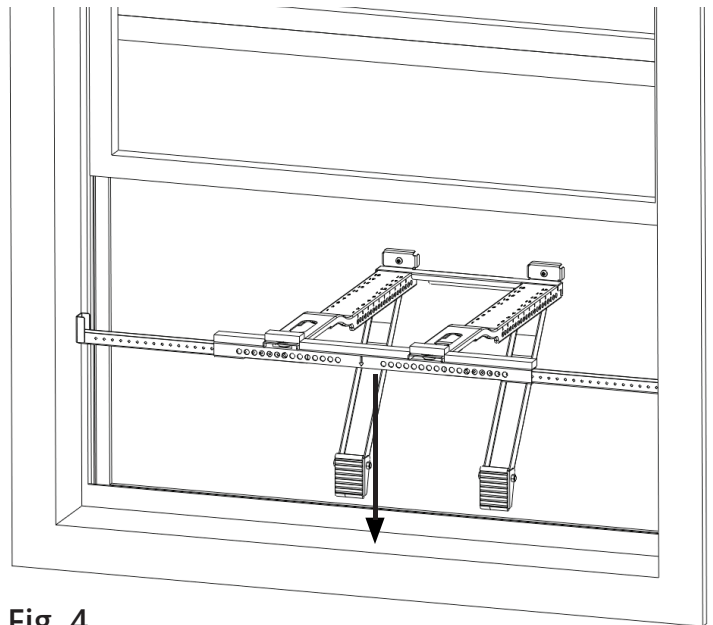

Fig. 4
A. Install the **Main Support Bracket** into the window opening. Ensure that the **Horizontal Bracket** and the **Left and Right Extension Arms** are located on the indoor side of the window. Please refer to **Fig. 4**.